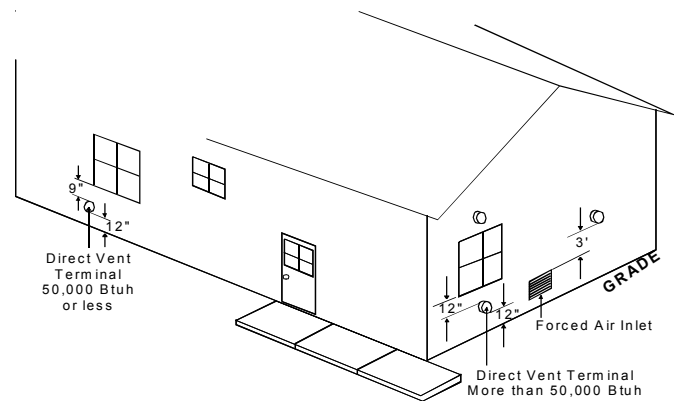

FIGURE 1
1. Determine termination locations based on clearances specified in furnace installation instructions, and following steps as shown in Figures 1,3,6,7,8 and 9.